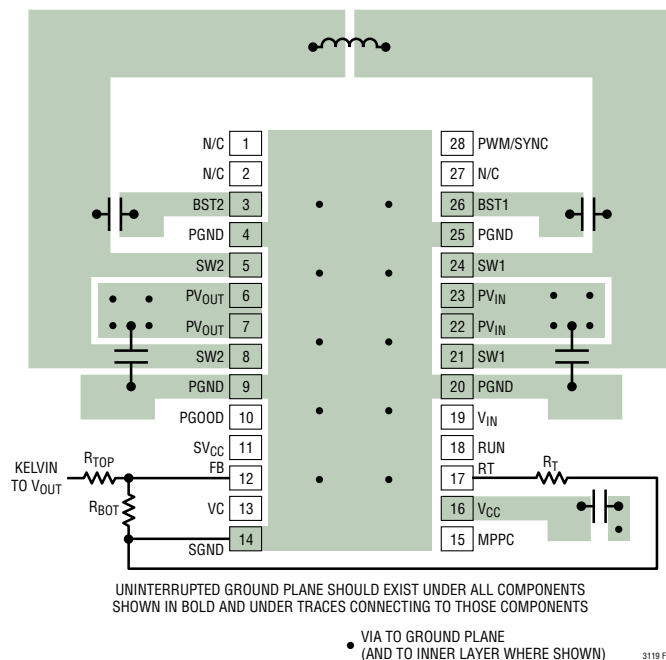

Figure 11. PCB Layout Recommended for the FE Package
The LTC3119 buck-boost converter switches large currents at high frequencies. Special attention should be paid to the PC board layout to ensure a stable, noise-free and efficient application circuit. Figures 11 and 12 show a representative PCB layout for each package option to outline some of the primary considerations. A few key guidelines are provided below:
1. The parasitic inductance and resistance of all circulating high current paths should be minimized. This can be accomplished by keeping the routes to all bold components in Figures 11 and 12 as short and as wide as possible. Capacitor ground connections should via down to the ground plane by way of the shortest route possible. The bypass capacitors on  $PV_{IN}$ ,  $PV_{OUT}$  and  $V_{CC}$  should be placed as close to the IC as possible and should have the shortest possible paths to ground.
5. To prevent large circulating currents in the ground plane from disrupting operation of the LTC3119, all small-signal grounds should return directly to GND by way of a dedicated Kelvin route. This includes the ground connection for the RT pin resistor, and the ground connection for the feedback network as shown in Figures 11 and 12.